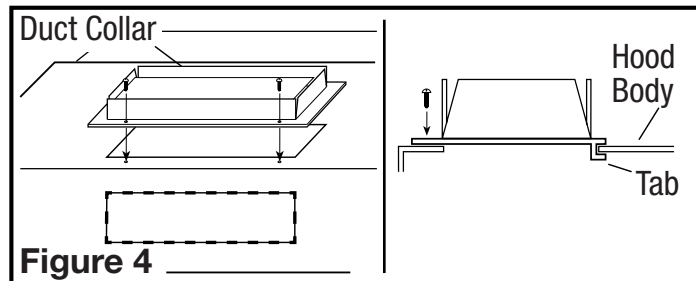

Figure 4
6. Install the duct collar to the hood by sliding the tabbed section of the duct collar under the hood body and securing with the two provided screws. Using approved duct tape, tape around the collar to seal off any air leaks (**Figure 4**).